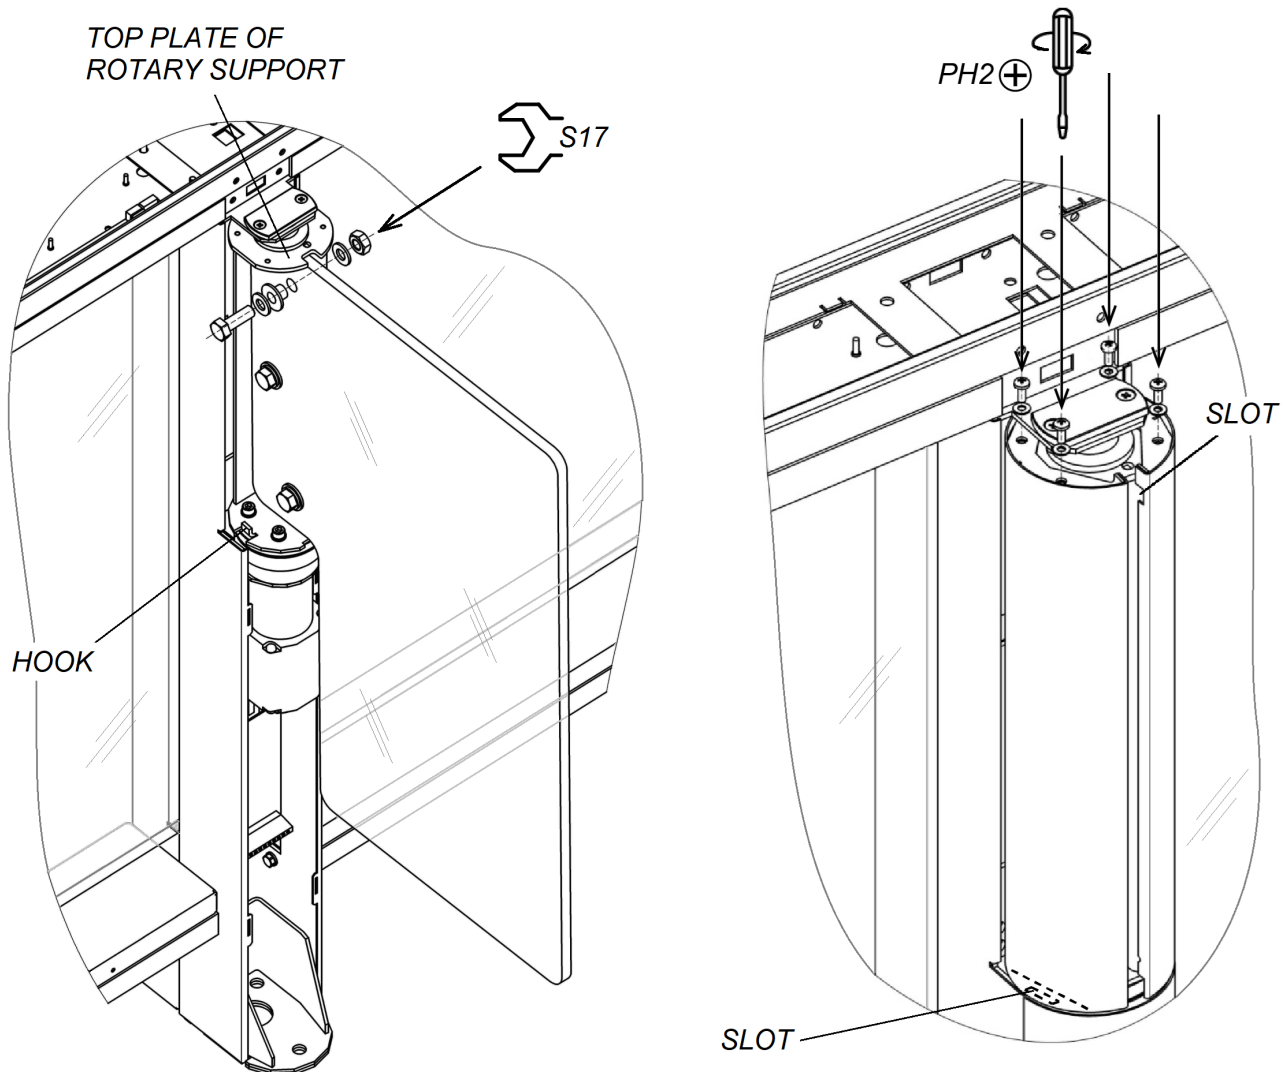

Figure 21. Swing panel and its cover plate
22. Unpack the glass swing panels (4) and mount them (Fig. 21, Sect. 8.8.3).
23. Mount swing panel cover plates (3) from the installation kit (Fig. 21, Sect. 8.8.4).
Two people shall install and remove the swing panels (4). The swing panel is fixed to the rotary support in three places with M10×30 bolts, washers 10, plastic bushings, and M10 nuts (Fig. 21). Use S17 horn-type wrenches.
2. Mount one of the cover plate components on the rotary support. To do this, mount the cover plate on the upper plate of the rotary support through the slots at the top of the cover plate. After that, shift the cover plate down to the end, inserting the cover plate's lower slot on a hook located at the bottom of the rotary support (Fig. 21).